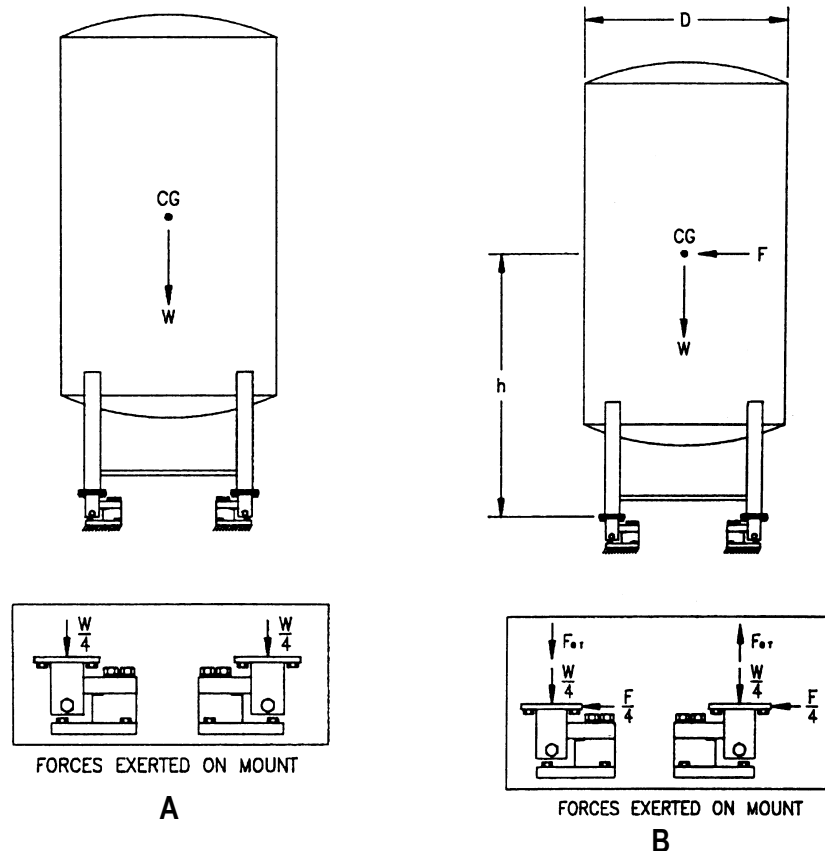

Figure 17-1. External Forces on a Weigh Vessel
In general, these forces act horizontally at the center of gravity (CG) of the weigh vessel. Figure 17-1-A illustrates a four-legged vertical cylindrical vessel and the forces acting on it in the absence of wind or seismic forces. W is the vessel's weight (an empty and full vessel should be considered separately, as either one may be the limiting case), and it acts through the vessel's center of gravity. Assuming that the four legs are arranged symmetrically, then each leg will exert a force of $1/4W$ on each mount.
Figure 17-1-B illustrates the same vessel with the addition of a horizontal force F (the result of wind or seismic activity.) The vessel exerts a horizontal force of $1/4 F$ on each load cell mount. Also, there is an additional force of F_{0T} acting on the left-hand side load cell mounts, which means that each is now carrying a load of $1/4W + F_{0T}$. On the right-hand side load cell mounts, a force of F_{0T} is also induced as a result of F , however, this force is in the opposite direction to the existing $1/4W$ and the total force here is reduced to $1/4W - F_{0T}$. Therefore, the load is being transferred from the mounts on one side of the vessel to those on the other. The load cell capacity selected must be capable of withstanding this additional force for the extremes of wind or seismic forces expected. If F was increased to where F_{0T} equaled $W/4$ then there would be zero load on the right hand mounts and the load would have doubled to $W/2$ on the left-hand mounts. Further increase in F will cause the vessel to lift up on the right-hand mounts and may, in the extreme case, cause the vessel to tip.
The relationship between F_{0T} and F may be stated as follows for the vessel shown in Figure 17-1: